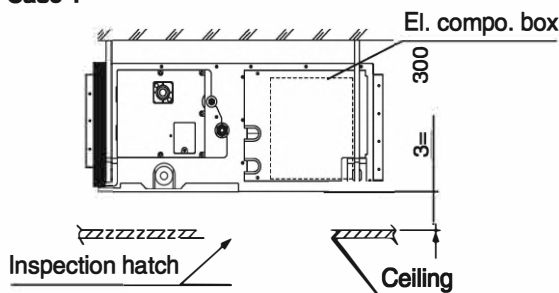

Fig.2-1
1. Inspection hatch 1 and 2 (450 × 450) for the el. compo box and a minimum space of 300 mm at the bottom of the product. (Refer Fig. 2-1)